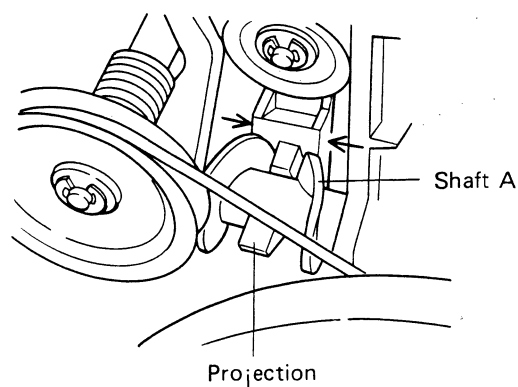

Fig. 9
4. When the tape is stopped, the projection on plate A is brought to the center by the depression in the cam. (Fig. 9)